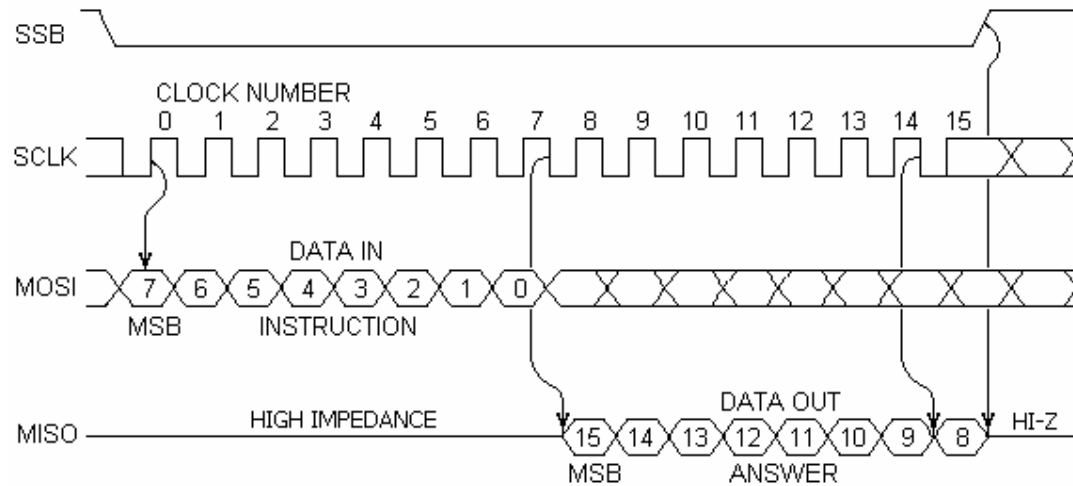

Figure 5-3. Serial Exchange Sequence (the reading of the higher half of the answer)
- If high level is applied to \overline{SS} during the answer reception, the answer will be truncated. This can be used to limit the reading of the answer to e.g. one byte only (see Figure 5-3).